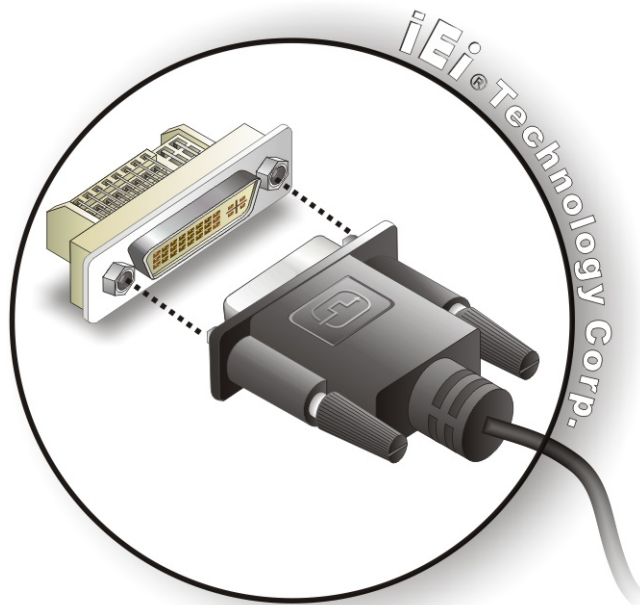

Figure 5-15: DVI Connector
- Step 3: Insert the DVI connector** Once the connectors are properly aligned with the male connector, insert the male connector from the digital display device into the female connector on the KINO-690S1. See **Figure 5-15**.